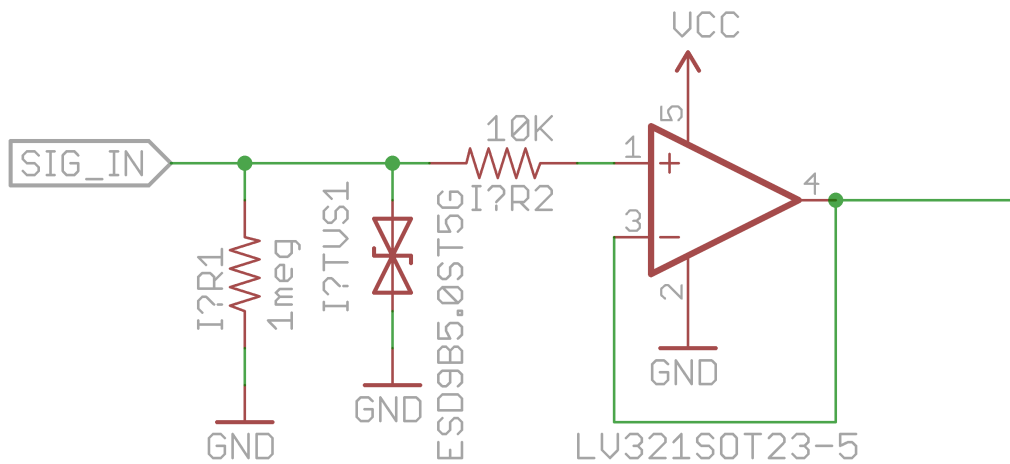

Figure 2: Example of an input stage, included in the Eagle templates
- 3.0.9 Inputs: Every bitSnap input must have a series 10K current limiting resistor on the SIG line (see Figure 2).
- 3.0.10 Inputs: Every bitSnap input must have a shunt TVS diode, or equivalent ESD countermeasures (see Figure 2).